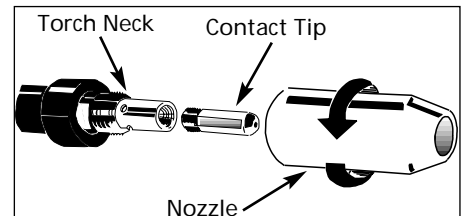

Figure 4 - Torch Nozzle and Contact Tip
7. Remove the nozzle by turning **counterclockwise**. Then unscrew the contact tip from the end of the welding torch (See Figure 4). Plug the welder into the proper power supply receptacle.
9. Carefully slip the contact tip over the wire and screw it into the torch neck. Install the nozzle by turning **clockwise** (See Figure 4). Cut the wire off approximately 1/4" from the end of the nozzle.